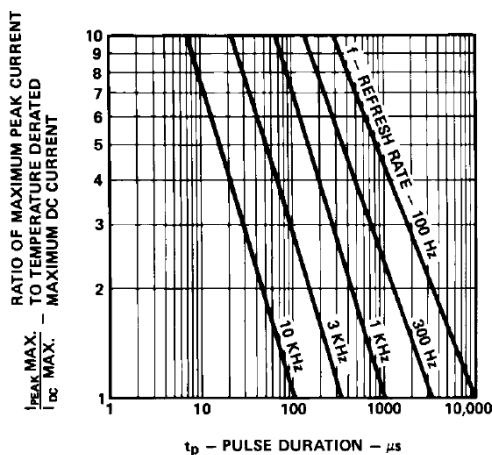

Figure 6. Maximum tolerable peak current vs. peak duration
2. Refer to Figure 6 to establish pulsed operating conditions.